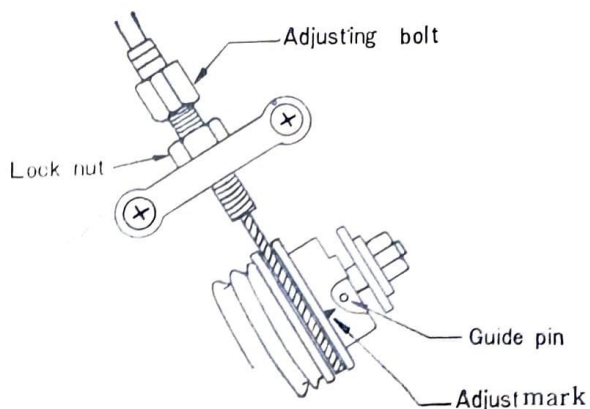

Fig. 2-3-6
- 1) If the pump guide pin is not aligned with the mark on the adjusting pulley, loosen the lock nut shown in Fig. 2-3-6.